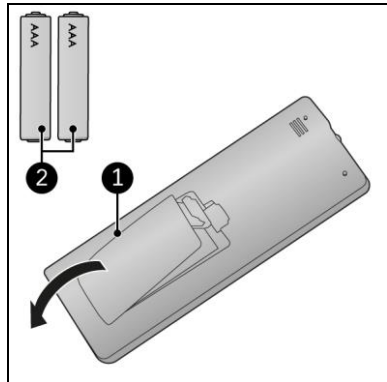

Figure 15
1. Remove the cover (Figure 15, pos. 1).
3. Insert two batteries (AAA 1.5 V) (Figure 15, pos. 2) as indicated in the battery compartment. Make sure to insert the batteries correctly.
6. Remove the batteries from the remote control. (Figure 15).